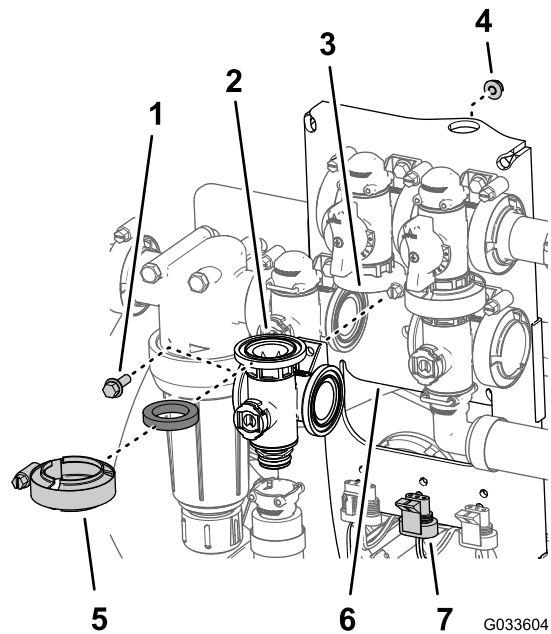

Figure 127
1. Align the flange of the agitation-valve manifold, a gasket, and the flange of the agitation bypass valve (Figure 127).
9. Assemble the agitation valve to the valve mount with the flanged-head bolt and flanged locknut (Figure 127) that you removed in step 3 of Removing the Agitation Manifold Valve (page 79), and torque the nut and bolt to 10 to 12 N·m (90 to 110 in-lb).